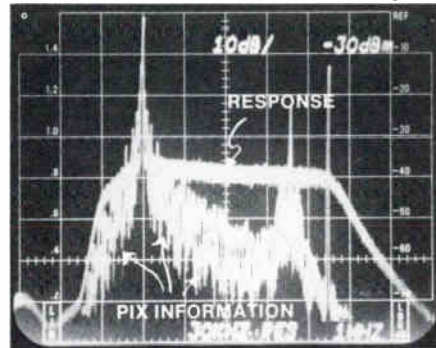

Figure 10. In-Service VIT Sideband Analysis Using Noise
4. Using storage, a picture of the sideband response will be slowly 'painted' upon the screen similar to Figure 10.